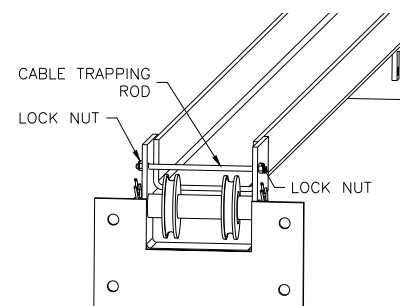

Fig. 5-Cable Trapping
- 8) Shim both columns to plumb using the shims provided as shown in Fig. 5. DO NOT shim more than 1/2" at any given point. Use a level no less than 24" in length to plumb columns.
- 16) At the upper beam sheave locations disassemble and reassemble the cable trapping rod to install the cable onto the sheave, See Fig. 5. To install the cable bottom sheave will need to be removed then reassembled.